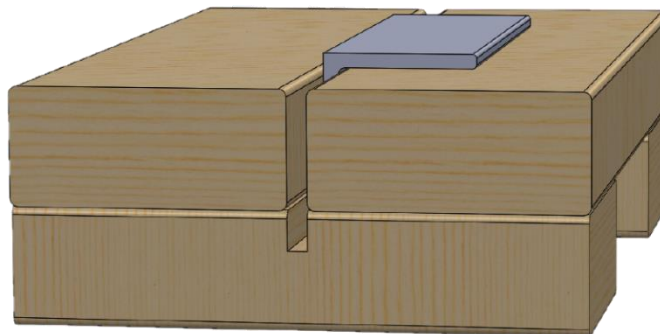

Figure 7. Block for drilling holes
- c. Use the block to drill holes (see illustration in Figure 7 below).